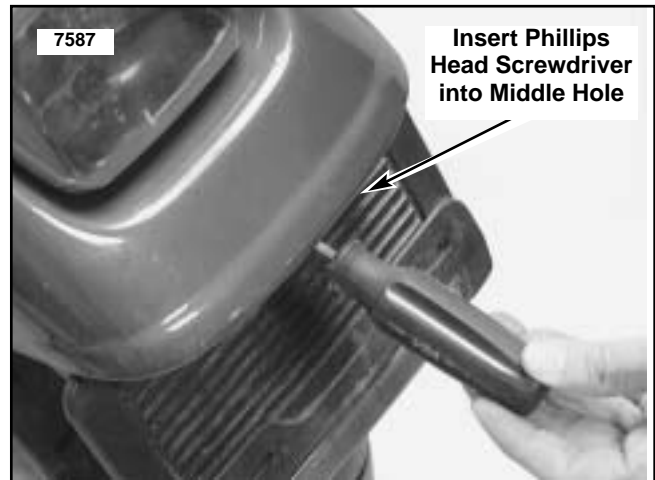

Figure 1. Remove Tail/Stop Light Assembly
3. See Figure 1. Insert phillips head screwdriver into middle hole of license plate light assembly. Push screwdriver in to disengage clip while gently pulling lamp out. See Figure 2. Disconnect tail/stop light wiring (4-place Multilock) at stop/tail lamp connector.